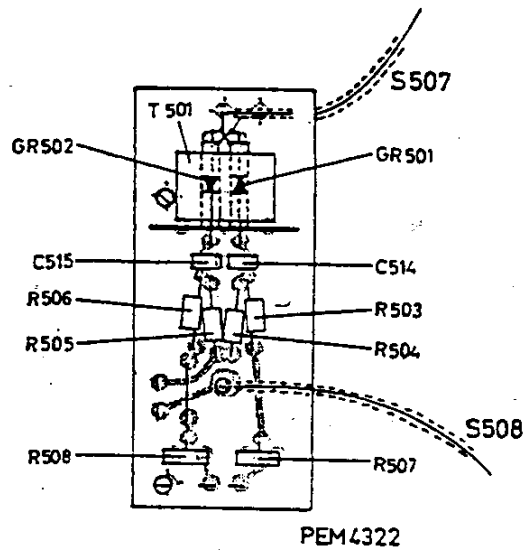

Fig. V-16. Printed wiring board, video-modulator
#### E. MODULATOR (see Fig. V-16)
2. Adjust the d.c. current in the modulator to reactive and active balance (see Fig. V-13) by means of R507 and R508 (see Fig. V-16).